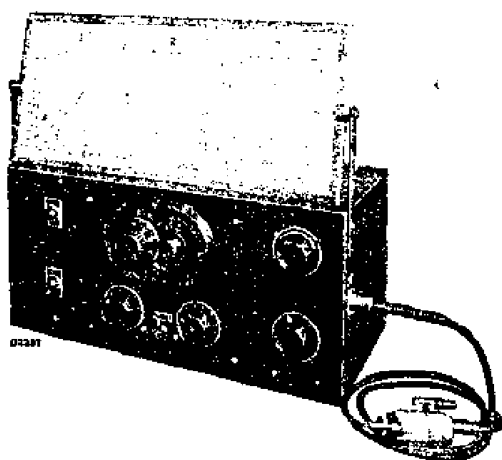

Fig. 1.
1. Service oscillator GM2880F (fig. 1).